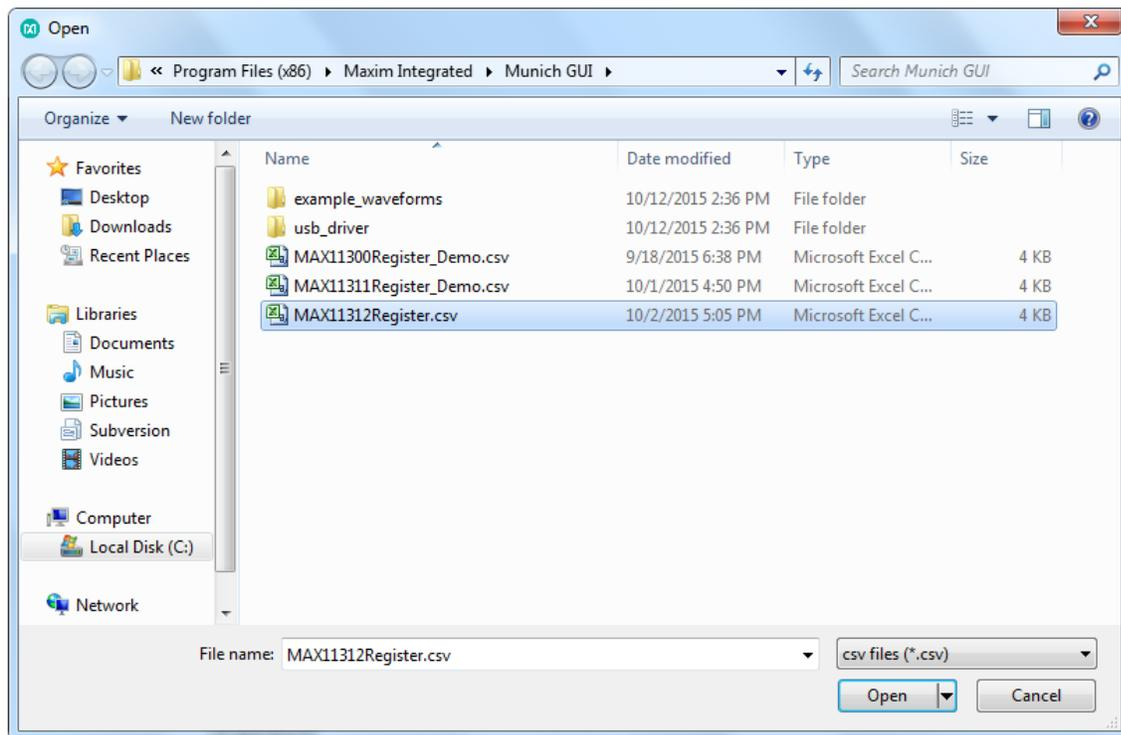

Figure 18. Register files.
4. Under Configuration, click on **Read from File** and select the register file **MAX11312Register\_Demo.csv** as shown in **Figure 18**.